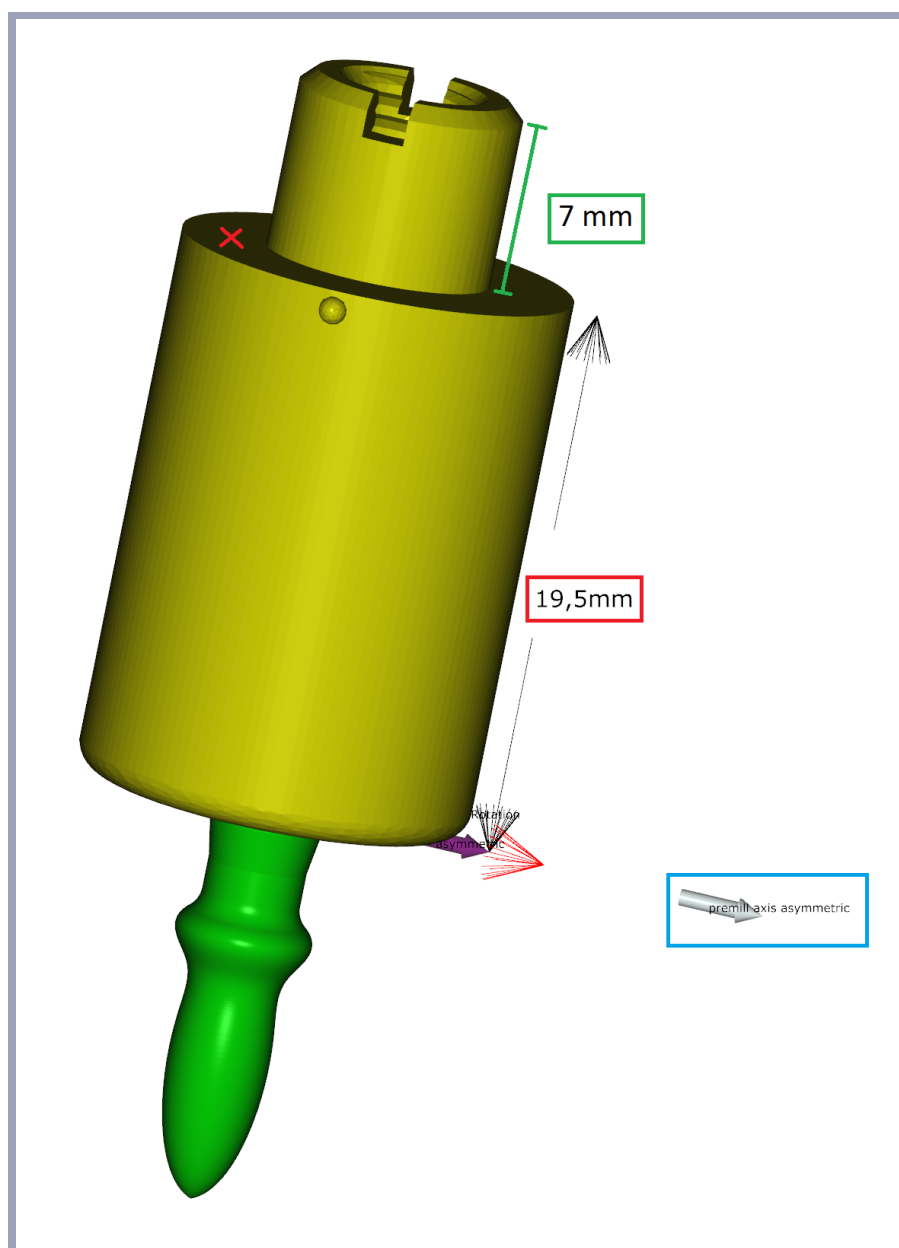

Figure 17: Premill parameters
- **PREMILL HEIGHT (optional):** Defining (typing in) this value is only necessary if the premill has a holder at the top, as shown in Figure 17, which means that not the overall height of the premill can be used for milling. If the implant connection at the bottom is used for mounting the premill in the milling machine, do not define a value.